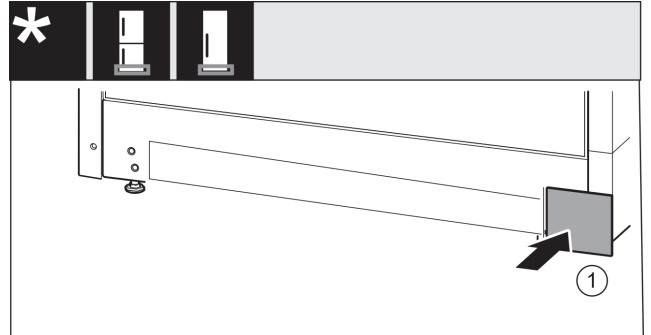

Fig. 33
- ▶ Re-attach the cover Fig. 33 (1) to the other side.